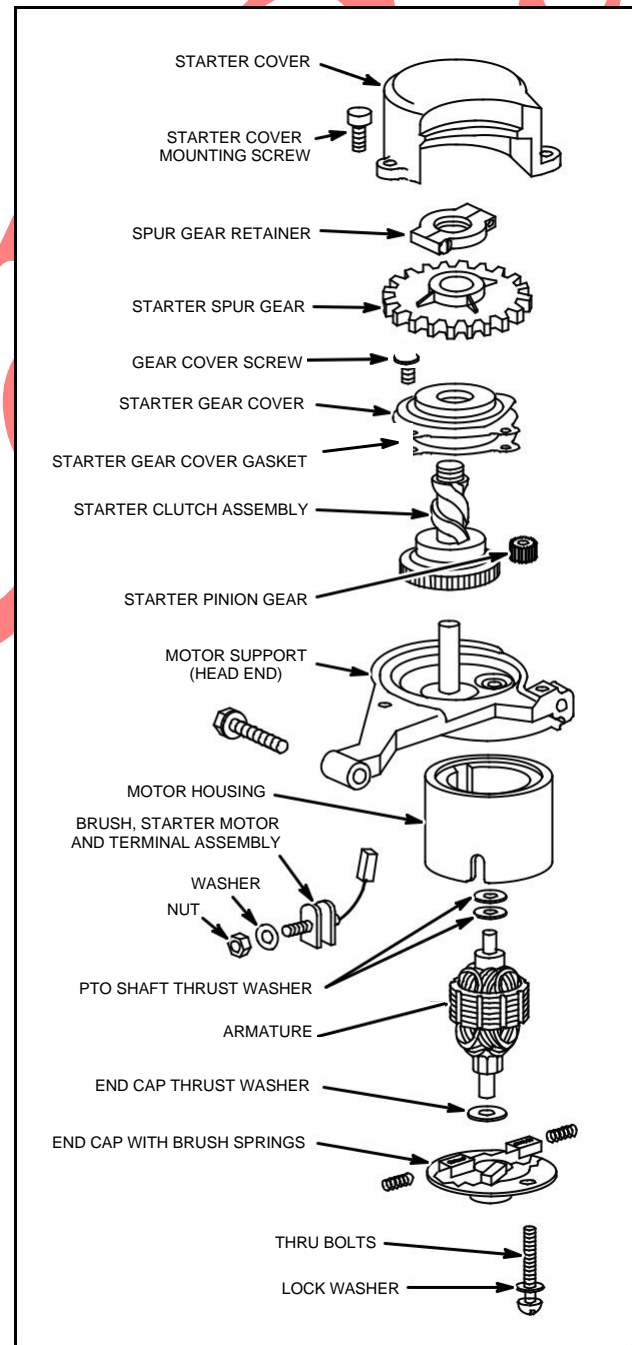

Fig. 648 - EXPLODED VIEW
1. Study Fig. 648 prior to Starter Motor Disassembly.